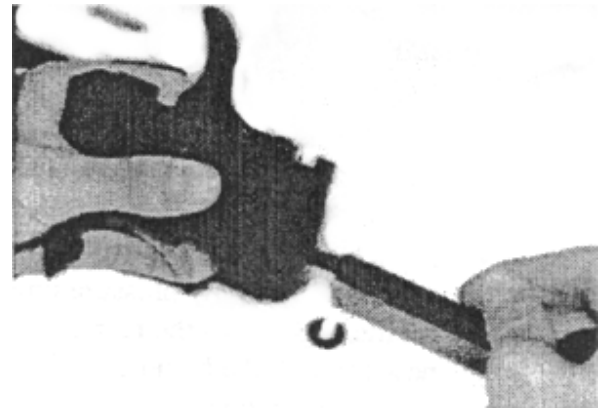

Figure 4
- Turn the trigger mech. over when the spring is compressed and let the *bushing* fall out (Fig. 4)